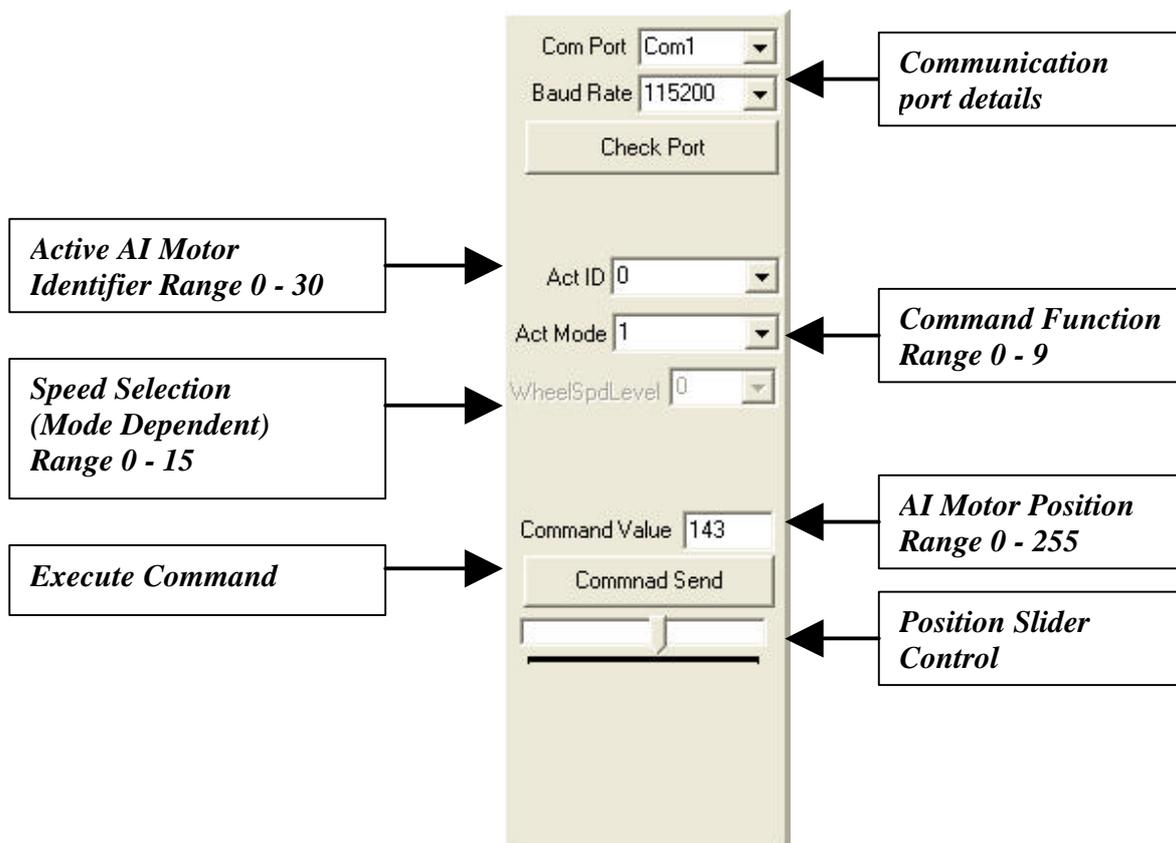

Figure 1 – Main Control Panel
- Select the appropriate serial port from the Main Control Panel (refer Figure 1). The default is Com1 at 115200 baud.
- Ensure that the ACT ID is 0 (Figure 1).
- Ensure that the ACT MODE is 1 (Figure 1)